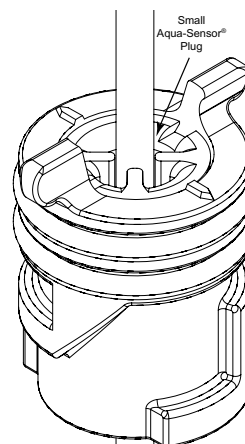

Figure 3
- B. Loosen the small Aqua-Sensor® Plug, a needle-nose pliers works best (figure 3).